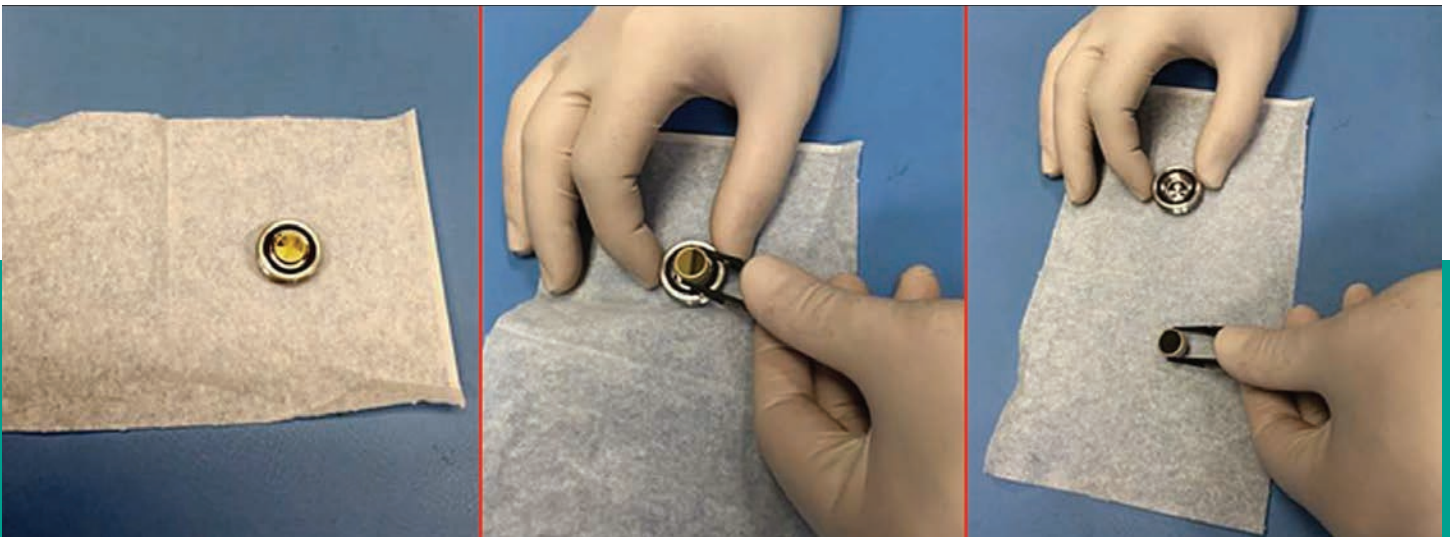

Figure 55: Inspecting the mirror assembly
- Gently place the extracted mirror assembly on a clean lens tissue. Using a pair of plastic-tipped tweezers gently extract the 0.5" diameter mirror from the end cap, taking care not to touch, squeeze or nick the two O-rings in the end cap assembly (see *Figure 55* below).